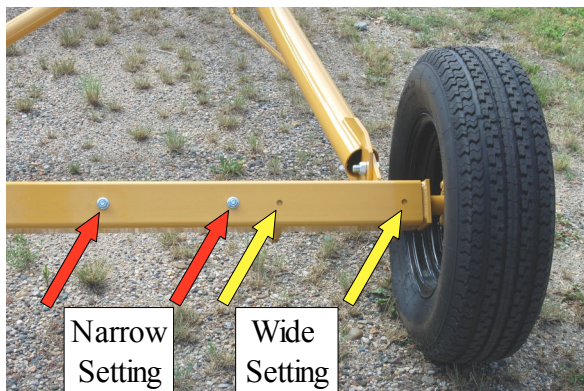

Fig. 2 Axle Adjustment (80' is Different Design)
3. When moving auger on rough or uneven terrain adjust axle to widest position. **See Fig 2.**